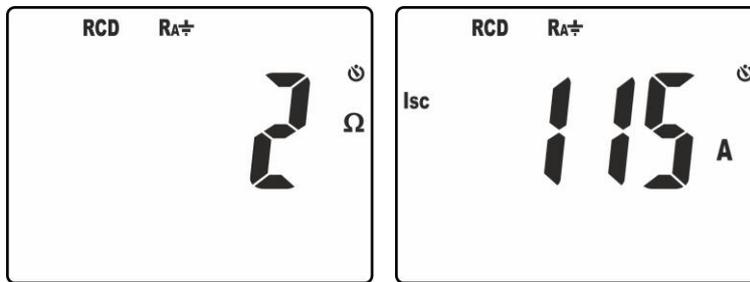

Fig. 22: Results of measurement of overall earth resistance
9. The screen in Fig. 22 – left side shows the value of overall earth resistance. Press keys $\blacktriangledown/\text{Ⓢ}$ or \blacktriangle to display the value of assumed short-circuit current **Isc** (see § 9.3)